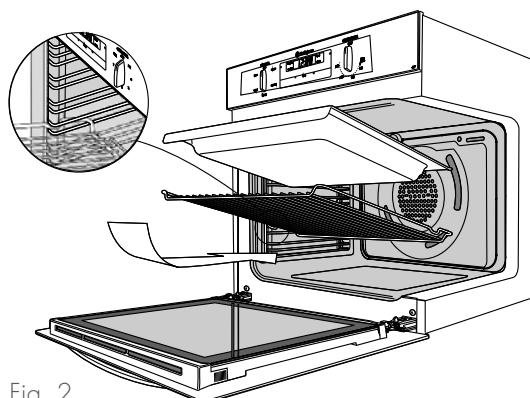

Fig. 2
3. Shelves and trays (excluding POR881) (Refer Fig. 2)